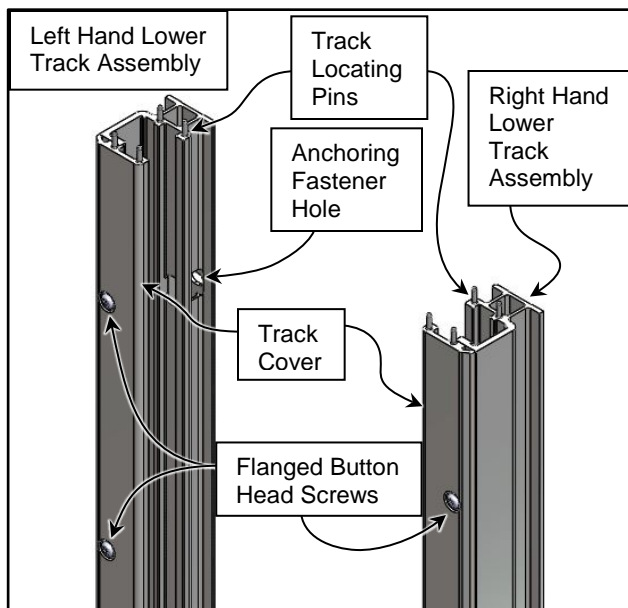

Figure 22
- Identify each Lower Track Assembly as shown. The track opening must face the door's center as shown. Select the assembly for mounting in the side column currently being installed. (See Figure 22)